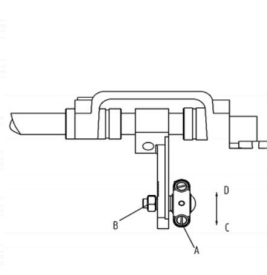
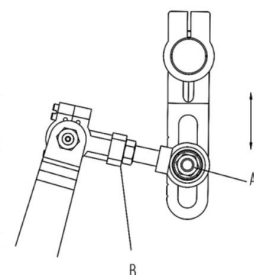

图31 (Fig.31)
图32 (Fig.32)
- 1.取下上盖,拧松连杆(A)上的螺帽(B)。(图 31)
- 3.微调时,放松螺帽(A)将连杆(B)上下移动,往上量多。(图 32)
- 1.Take off cover and Release nut (B) on connector (A)。(Fig.31)
- 2.Move connector (A) back and forth for more or less feeding length ,toward (C) dilection reduce feeding length。
- 3.For micro adjustment .release nut (A) and move connector (B) upward for longer and downward for shorter feeding length respectively 。 (Fig.32)